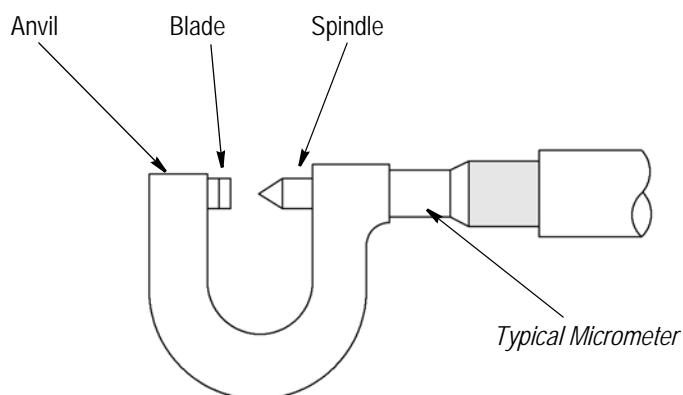
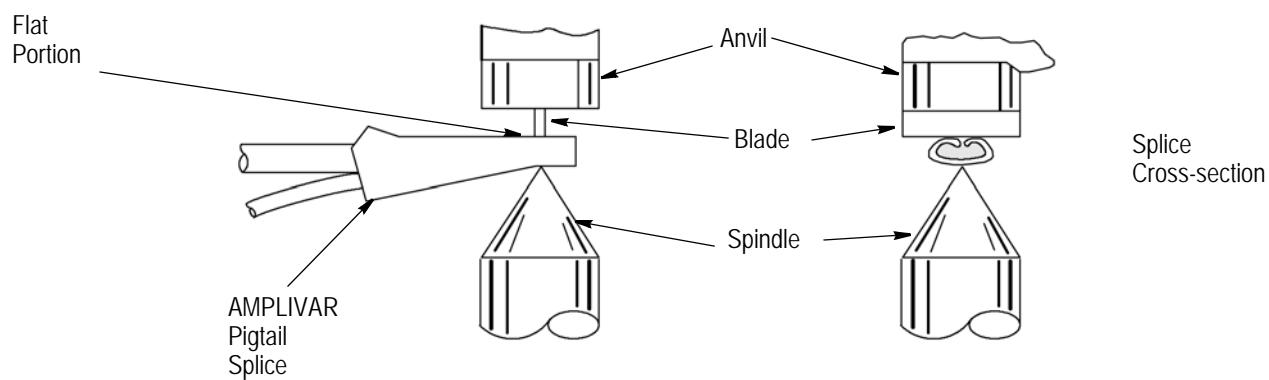

Figure 18
Figure 19
2. Using a crimp height comparator as shown in Figure 18, measure the crimp height of the termination as shown in Figure 19. The crimp height must be within  $+\text{-} 0.08$  mm [.003 in.] of the measurement specified for the type terminal and size wire being used, as obtained from your Tyco Electronics Field Engineer.